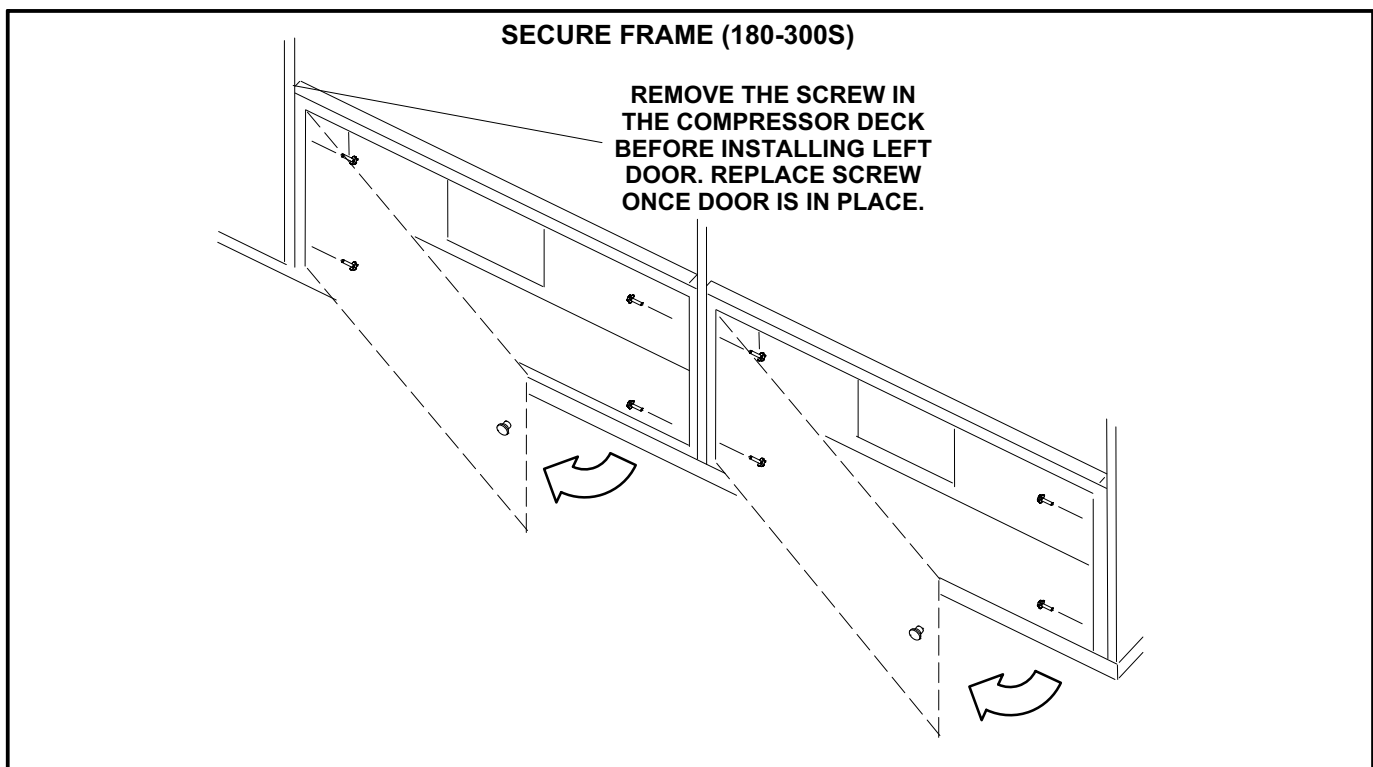

FIGURE 10
- 3- Remove the screw installed in the upper left corner of the left electric heat section. Position electric heat door assemblies in the electric heat openings as shown in figure 10. Make sure the doors open in the directions indicated.
- 4- Secure each door from the inside of the compartment as shown in figure 10. Secure with #10 sheet metal screws provided. Replace the screw which was removed in the previous step.